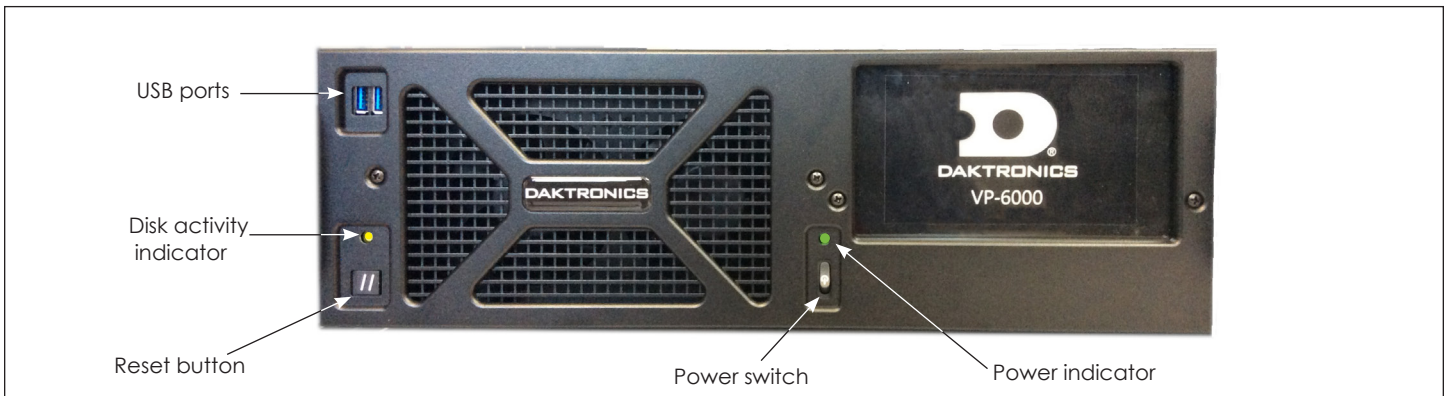
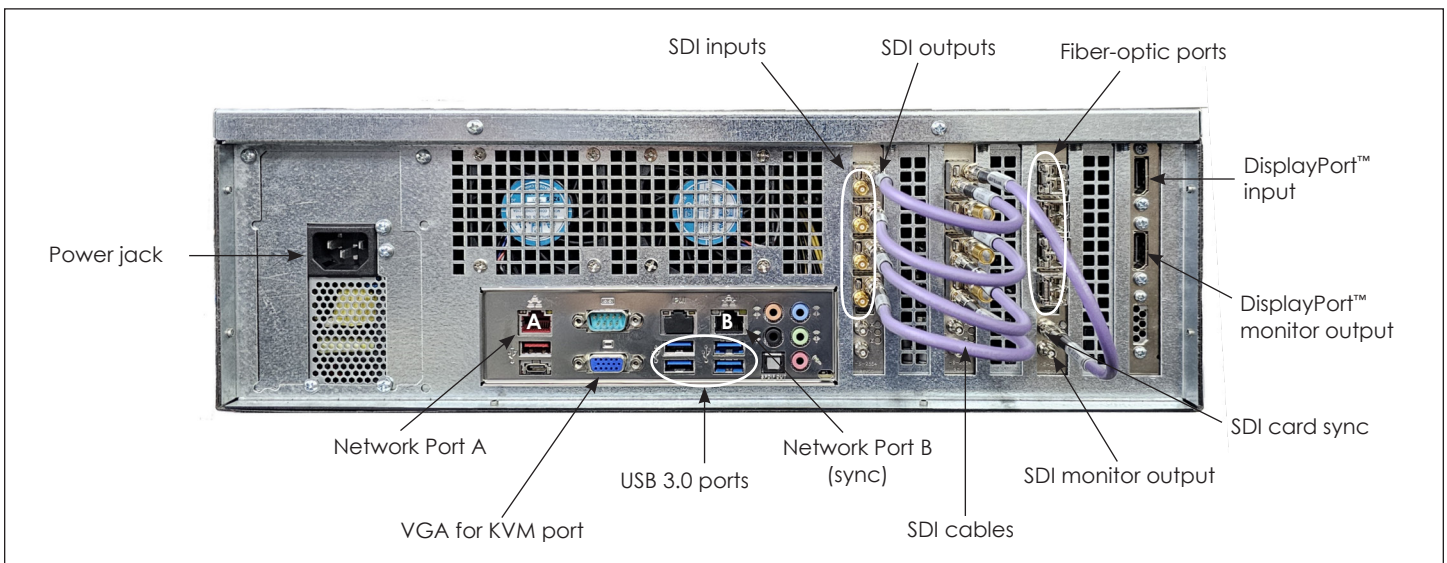

Figure 2: VP-6000 Front View
Figure 3: VP-6000 Rear View
The main components of the VP-6000 are illustrated in **Figure 2** and **Figure 3**.
1. Connect the power cord to the power jack. Refer to **Figure 3** on page 1.